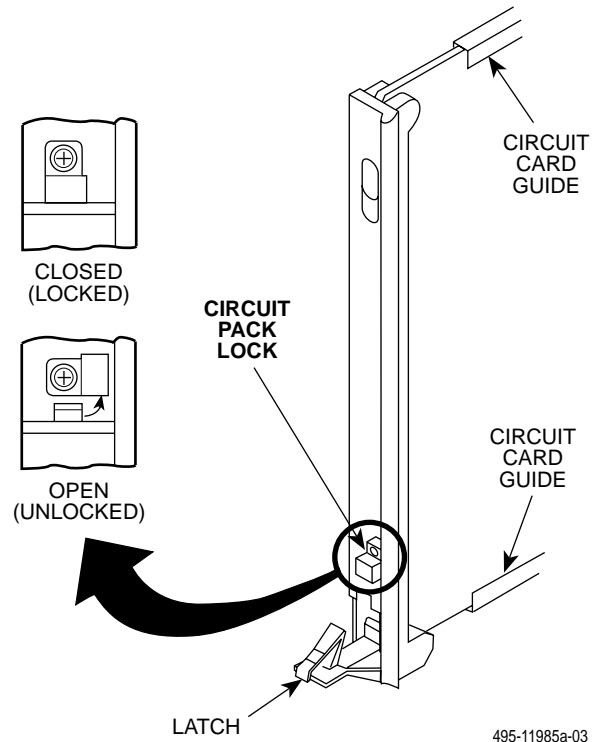

Figure 3-3. Circuit Pack Lock
6. Once you have determined that the modem is installed properly and completed its power-up self-test, rotate the circuit pack lock until it covers the faceplate latch (Figure 3-3). This prevents the modem from accidentally being removed once it is installed in a carrier.